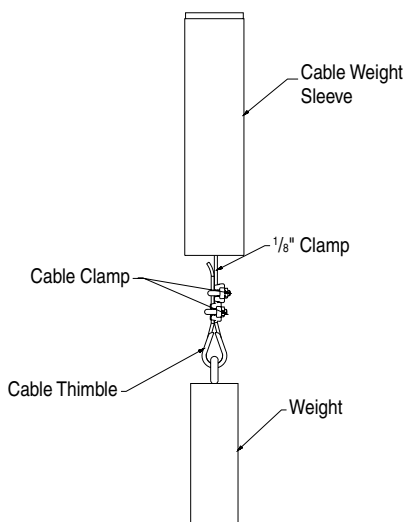

Figure 7
- ⑳ Lower practice cage until the frame is fully supported by the webbing support straps and the cable weights are approximately 3" off the finished playing surface. This should result in approximately 12" of netting material lying on the floor which is necessary to keep balls in the cage during use. If the amount of netting that is lying on the floor is not 12", it will be necessary to adjust the webbing support strap lengths to achieve the desired result.
- ㉑ Remove each cable weight, one at a time, while keeping some tension on the cable. Slide the cable weight sleeve on to the cable and reattach weight so that it rests approximately 3" off the floor. Trim and tape cable ends as necessary, then slide sleeve over clamps and loose cable end. Weight sleeve insures that the clamps, cable end, etc do not get caught and damage the netting material (see Fig. 7).